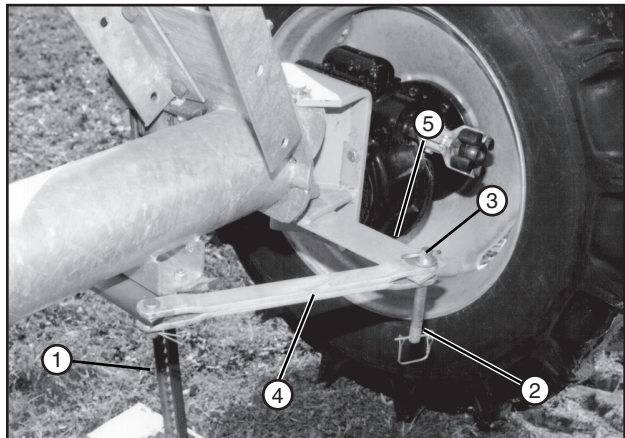

Figure 86-1 1. Jack 2. Lynch Pin 3. Torque Pin 4. Tow Link Bar 5. Steering Arm
1. Use a jack to lift one side of the drive unit until the tire is off of the ground. See figure 86-1.
3. Remove the lynch pin from the torque pin, then remove the torque pin and disconnect the tow link bar from the steering arm. See figure 86-1.